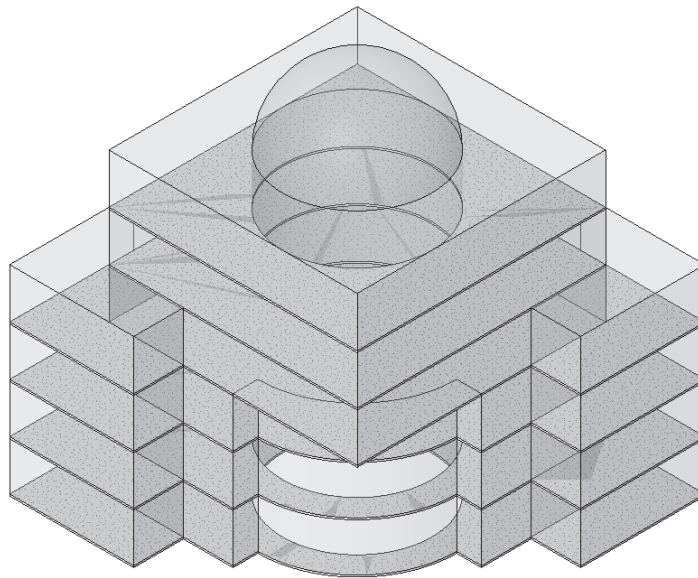

Figure 9-50 Converted floor area faces into floors
7. Using the crossing, select all the floor faces. Choose the **Create Floors** button from the **Options Bar**. Choose **View > Shading with Edges** from the menu bar. Autodesk Revit Building creates the floors at the floor area faces, as shown in Figure 9-50.